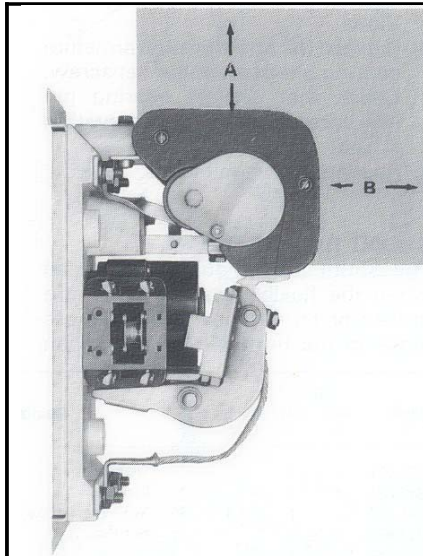

Fig. 1
Mount the contactor vertically on a rigid support. Refer to Figure 1 for proper clearances above the top of the contactor, dimension A, and in front of the Arc Shield, dimension B, for arcing clearance, or Arc Shield removal. Check nameplate data for correct equipment. Check that the contactor operating coils (31) is the correct voltage. With all power removed, pivot the Arc Shield upwards and operate the contactor by hand. The contact tips (8) should meet SQUARELY. If they do not, align them by the procedure in the Contact Tip Adjustment. Pivot the Arc Shield back to its proper position. **CAUTION: DO NOT OPERATE THE CONTACTOR UNDER LOAD UNLESS THE ARC SHIELD IS PIVOTED TO THE FULLY DOWN POSITION.**